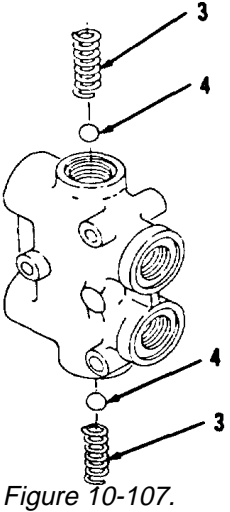

Figure 10-107.
- 3. Remove two springs (3) and balls (4, Figure 10-107).